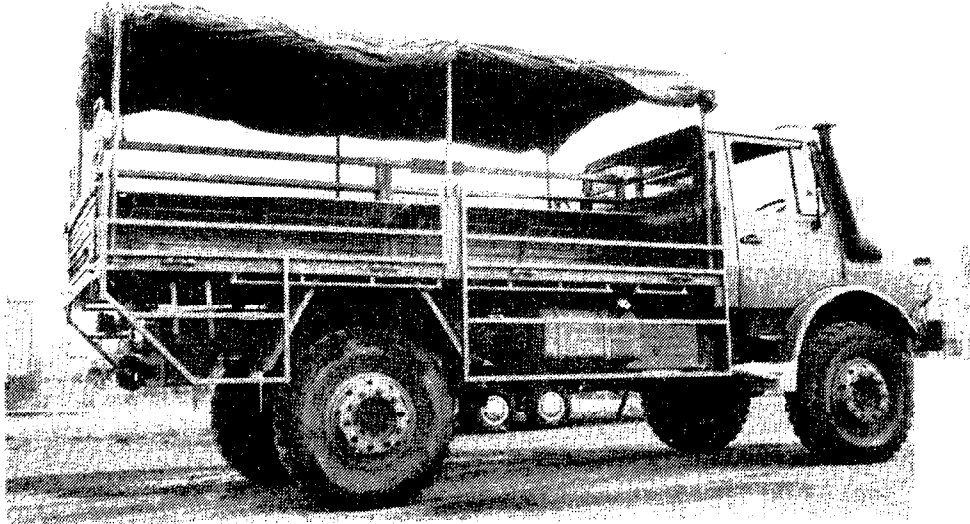

FIG 2 - FITTING SIDE FRAMES TO VEHICLES
- h. Attach the side frames to the vehicle (see Fig 2), ensuring that:
- (1) The metal tangs are behind the dropside tray hinges.
- (2) The frame goosenecks are engaged in the centre posts.
- (3) The headboard locks are engaged in the front side frames.